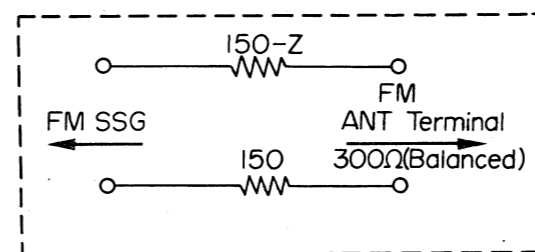

Fig. 4-1 FM Dummy Antenna
- (1) Standard FM Signal Generator
- (2) MPX Stereo Signal Generator
- (3) Audio Oscillator
- (4) Distortion Meter with AC VTVM
- (5) Dummy Antenna See Fig. 4-1.
- (6) Oscilloscope
- (7) Alignment Tools